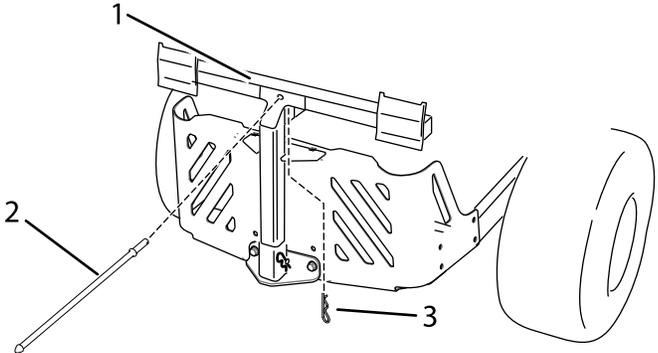

Figure 2
1. Install the hood rod to the bagger frame with a hairpin cotter pin. Install the hairpin cotter pin from the bottom (Figure 2).